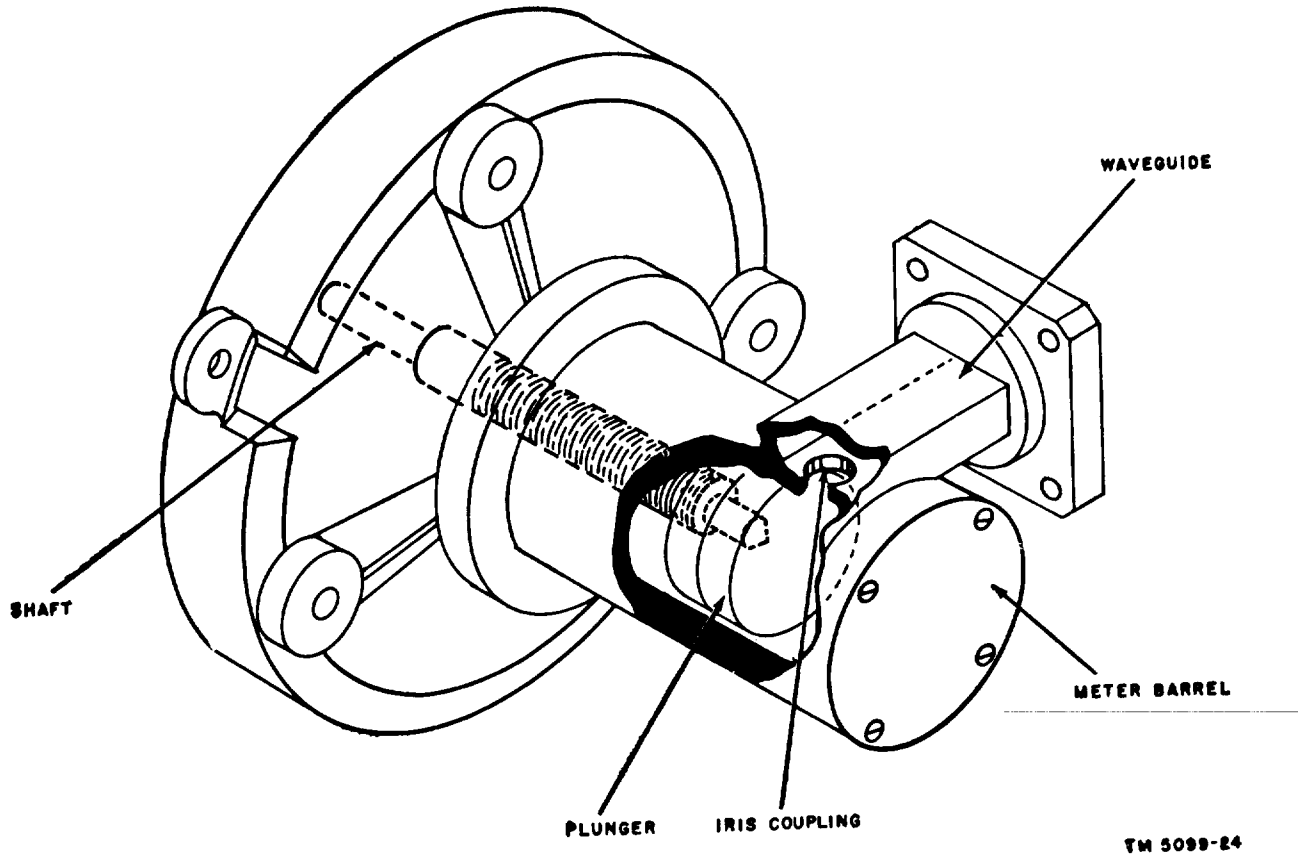

Figure 26. Frequency meter, cutaway view.
**47. Frequency Meter Z1 fig. 26)**